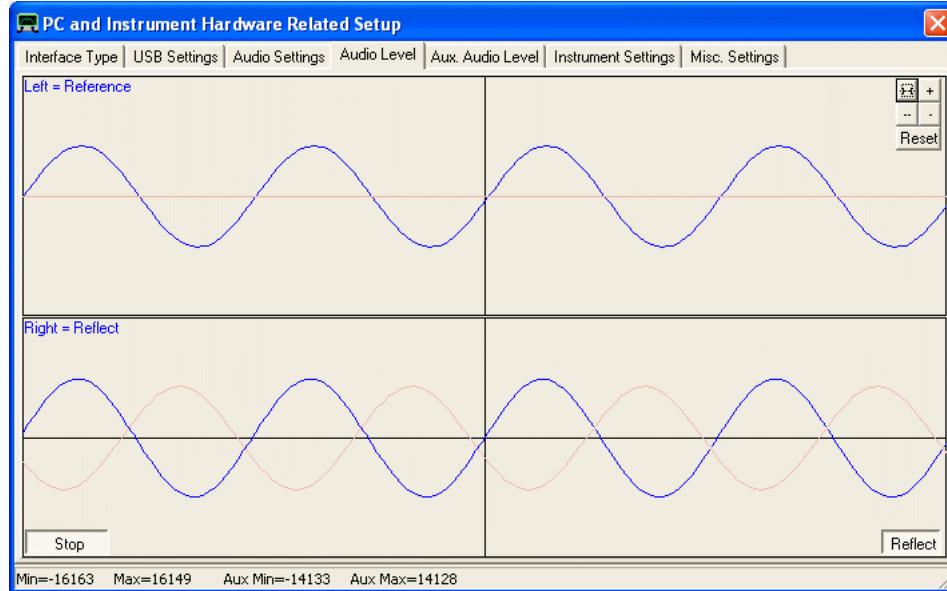

Fig 2. Audio Level with TX port not terminated (full Reflection)
3.1.4 Now select the tab "Audio Level" and select "Reflect" mode with no termination on the TX-port, and check the blue main Reference signal and blue Reflected signal are as shown in fig 2. Do not worry about the lighter red Aux Audio signal, which may also be visible.